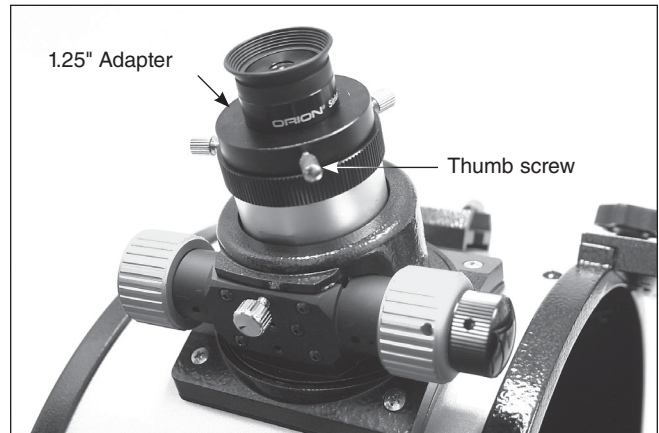

Figure 30. The 1.25" Sirius Plössl eyepiece installed in the focuser.
- To install the 1.25" Sirius Plössl eyepiece instead of the 2" Deep View eyepiece, keep the 1.25" adapter in the focuser, and make sure the two thumb screws on the 2" adapter are tightened. Now, loosen the thumb screw on the 1.25" adapter, do not loosen the two thumb screws on the 2" adapter. Insert the 1.25" eyepiece into the 1.25" eyepiece adapter, and secure it by retightening the thumb screw on the 1.25" eyepiece adapter (**Figure 30**). The other eyepiece can be placed in the eyepiece rack until it is needed.